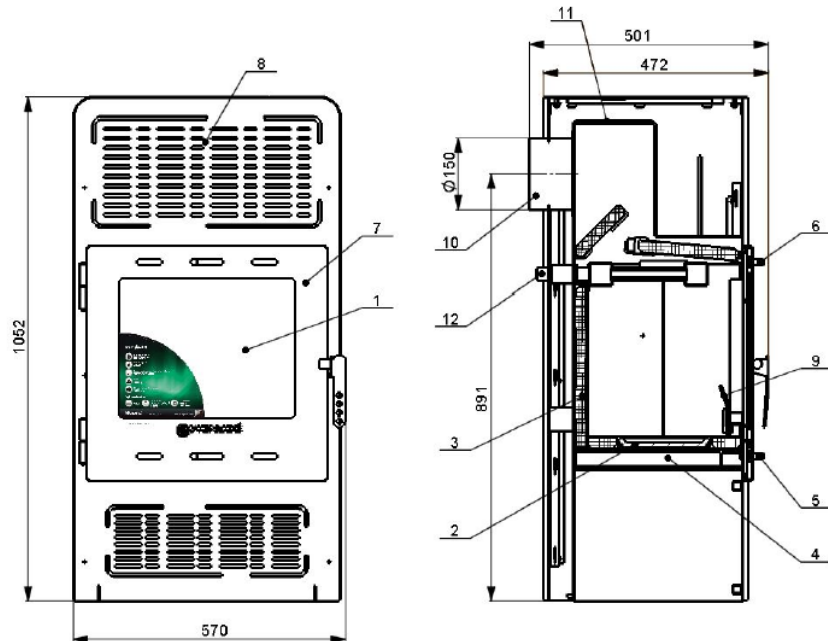

Fig.1. Vienybė 01
Ignition. Open the primary and secondary air supply valves 5 and 6 (see Fig.1) completely. Put two logs on the bottom of the firebox so that there is a gap between them. Put a creasy paper or solid fuel tablet in the gap and lay dry fine-cut firewood across the gap; lay average size firewood over the fine-cut firewood. Light the paper and close the door when it is burning well. The door handle may be hot; therefore you should use a protective glove. Adjust the intensity of combustion with the help of air supply valves.
- Remove the flue joint 10 (see Fig.1) by unscrewing the mounting bolts;
The fireplace should be installed in a way that air supply regulating valves 5 and 6 (see Fig.1) are not be blocked.